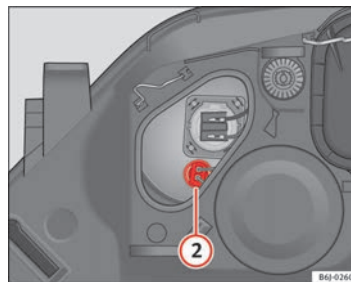

Fig. 149 Side lights
- Remove connector ⇒ Fig. 149 ② by pulling outward.